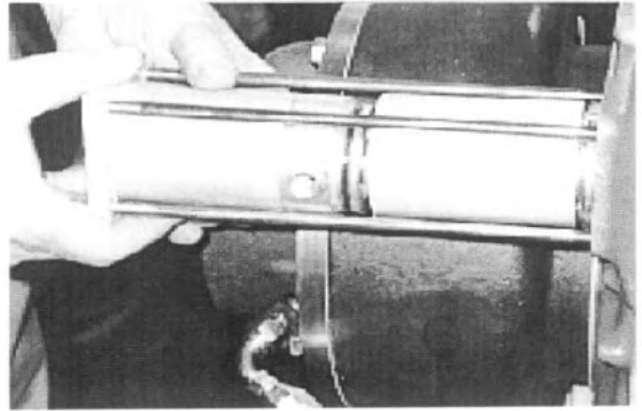

Fig. 7
9. Remove the air shift cylinder (and neutral, which is shown, if so equipped), located on the front side of the transfer case. See Fig. 7.